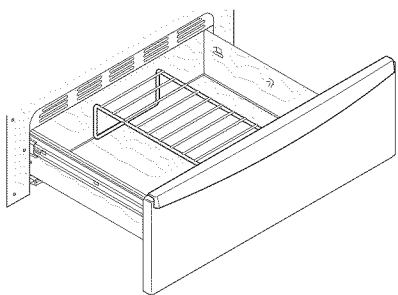

Figure 31: Upright position
- In the upright position (See Figure 31) to allow low profile food items to be placed both under and on top of the rack (for example, rolls or biscuits on top of the rack and a casserole dish underneath).